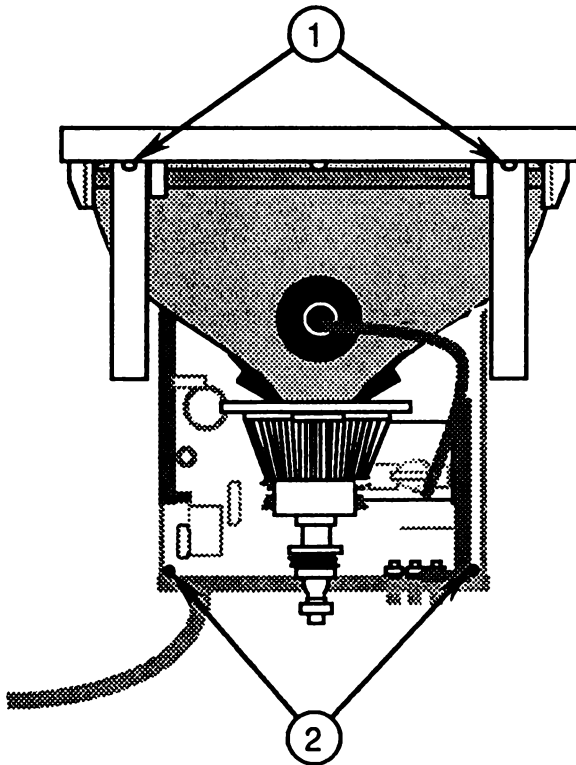

FIGURE 21
13. Remove the two screws holding the two upper case-support brackets to the bezel (Figure 21, #1).
14. Remove the two screws (Figure 21, #2) that secure the back panel to the main logic PCB.